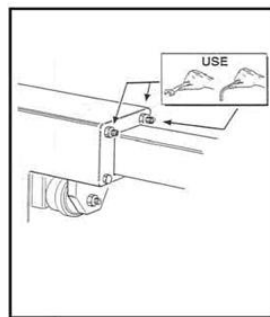

Fig. 5-5
- mounting head is too far from the rim horizontally, adjust the adjustment screw of the push-pull arm locking plate to obtain a horizontal gap of 2 mm with the rim (fig . 5-5) .